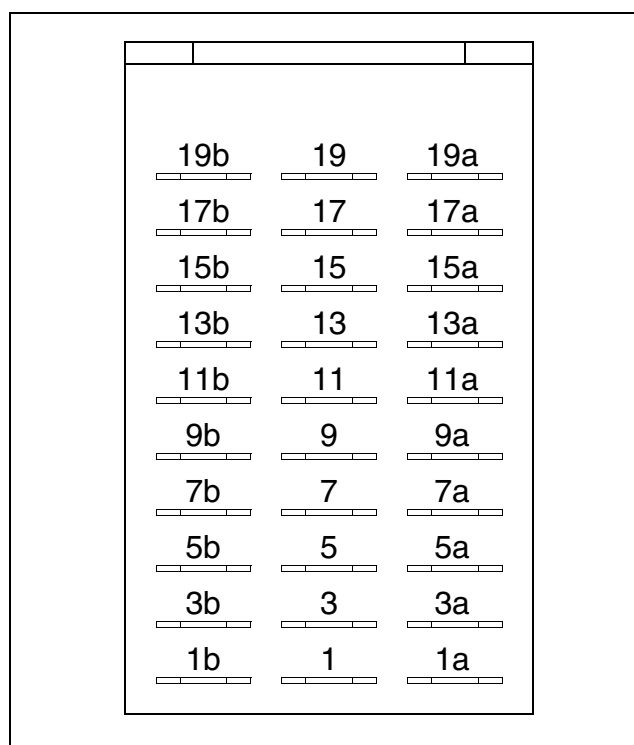

Figure 2
4. The mechanical timer is located in the middle of the control module. The odd-numbered side of the timer is used to change the duration of individual cycle steps. Refer to *Figure 2*.